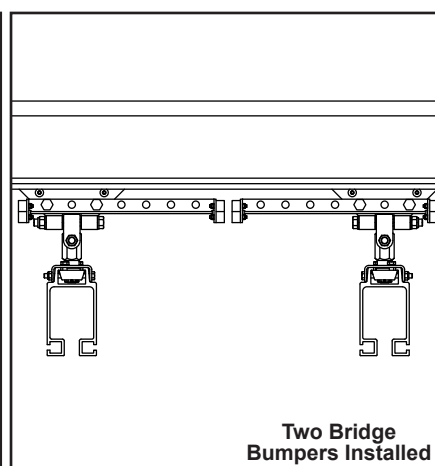

Figure 3-144
- Step 4. Repeat steps 1-3 for each bridge bumper required. Refer to station layout drawings if provided. See Figure 3-144 to show two (2) bridge bumpers installed.